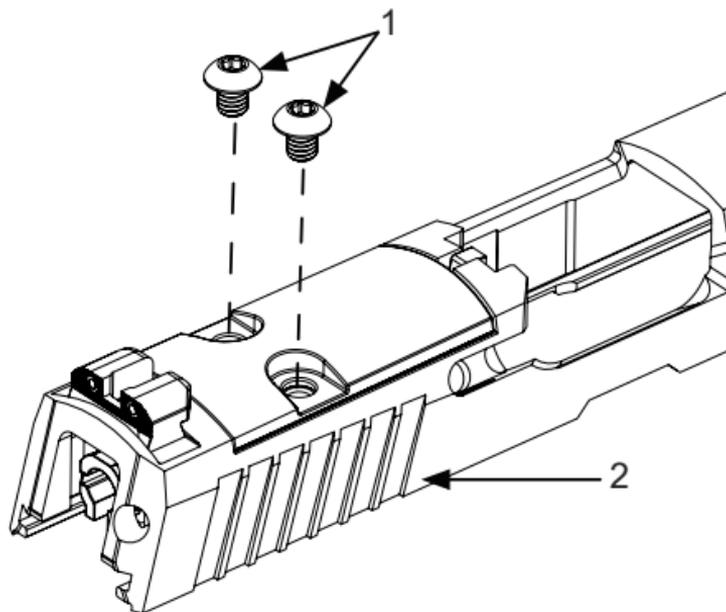

Figure 6. Remove Sight Plate Screw.
6. Use a T20 Torx® bit to remove sight plate screws (Figure 6, Item 1) from slide (Figure 6, Item 2).